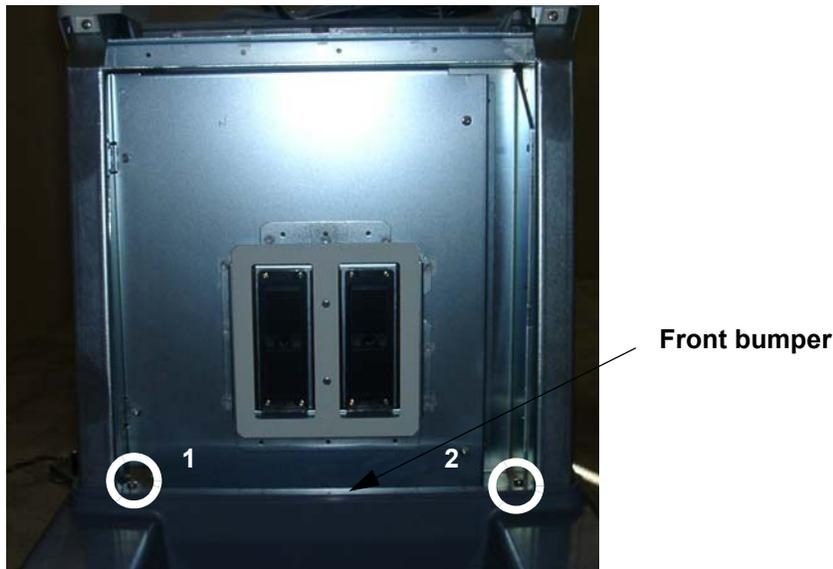

Figure 8-28 Removing Front Bumper
2. Remove the two screws (marked 1, 2 in Figure 8-28)